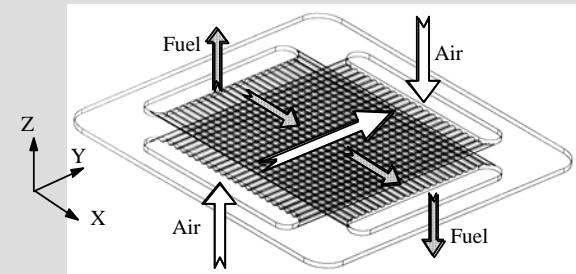

Fig. 1. Schematic view of a typical cross-flow planar interconnect plate.
- ▶ Fig. 1 shows a schematic of an interconnect plate displayed as being transparent to show top and bottom features.
- ▶ The active cell area in Fig.1 is that formed by the intersection of air and fuel flows in the X-Y plane.
- ▶ A single-cell stack is formed when interconnects, similar to that in Fig.1, are placed above and below a PEN.